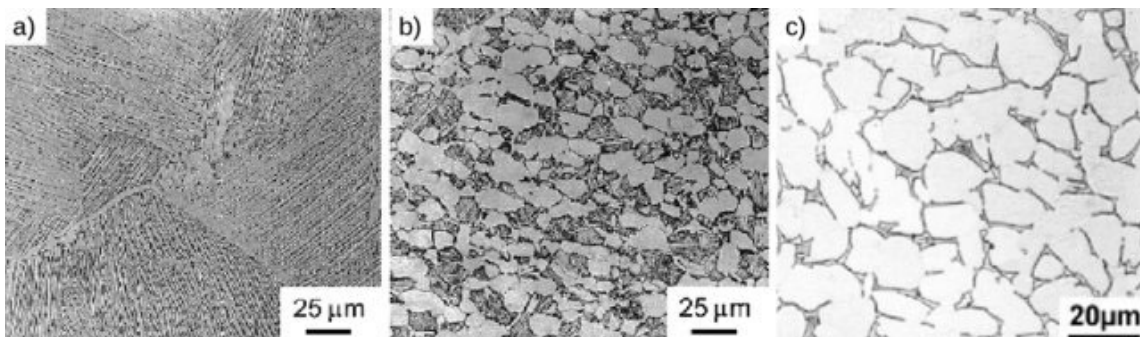

Figure 6. Optical micrograph- microstructures of Ti6Al7Nb after different thermos-mechanical treatments
- Figure 6 shows optical micrographs of Ti-6Al-7Nb with different microstructures. Name and explain the microstructures shown (3P)